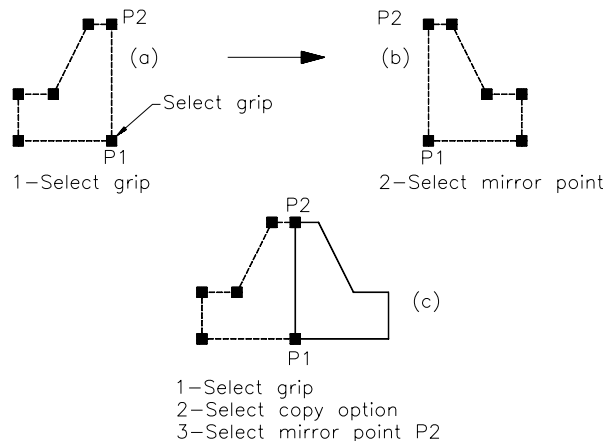

Figure 6-14 Using the **Mirror** mode to create a mirror image of the selected objects
1. Use the **PLINE** command to draw the shape shown in Figure 6-14(a). When you select the object, grips will be displayed at the definition points and the object will be highlighted.
3. At this prompt, enter the second point (P2). AutoCAD will mirror the selected objects with line P1P2 as the mirror axis, as shown in Figure 6-14(b).
4. Make a copy of the original figure, as shown in Figure 6-14(c). Select the object, and then select the grip located at its lower right corner (P1). Invoke the **Mirror** mode and then choose the **Copy** option to make a mirror image while retaining the original object. Alternatively, you can also hold down the SHIFT key and make several mirror copies by specifying the second point.